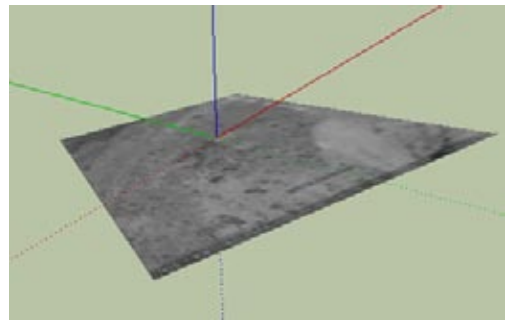

Figure 13-35
4. In SketchUp, click the Get Current View icon, or choose Tools→Google Earth→Get Current View. The snapshot and terrain based on what's visible in Google Earth are imported into SketchUp (Figure 13-35).